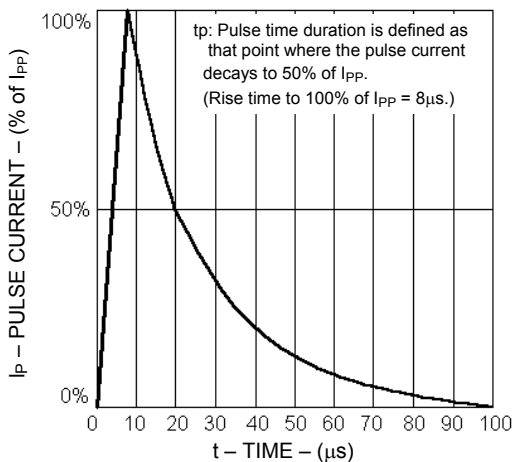

FIGURE 1
- Peak Pulse Power at 8/20 μs (See Figure 1 and 2)
* See Figure 1 for I_{PP} waveform of 8/20 μs